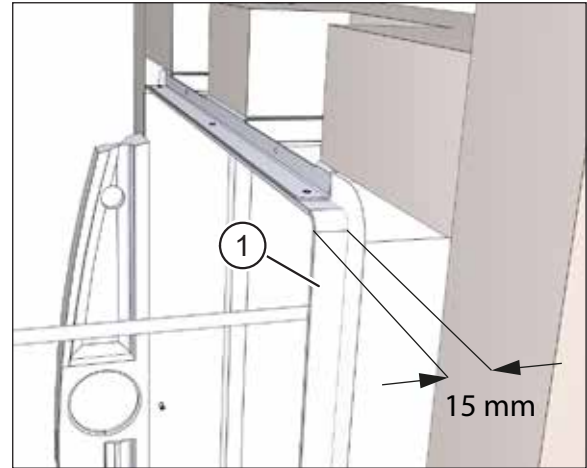
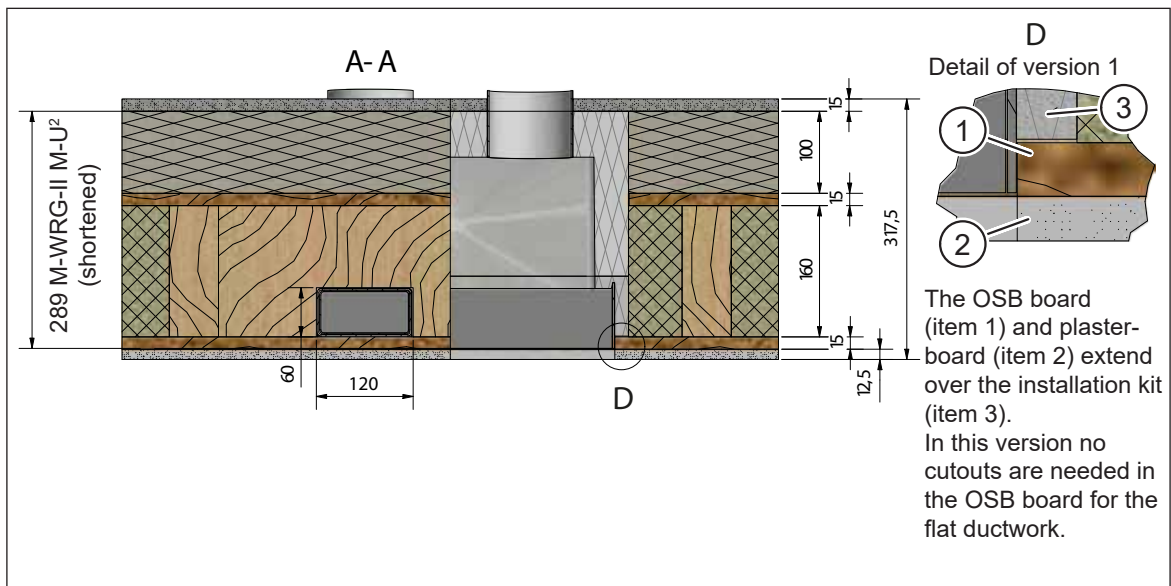
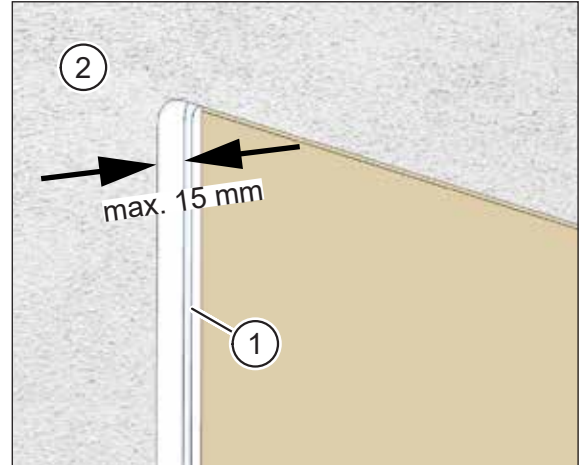

Fig. 51: Depth of plastering trim 15 mm
Fig. 52: Plastering trim and internal wall cladding ending flush
Fig. 62: The cladding must not protrude more than 15 mm
- ▶ Push the wall box between the two battens so that the plastering trim (item 1 in Fig. 51) will end flush with the eventual internal wall cladding (e.g. OSB board + plasterboard) or so that the internal wall cladding will protrude slightly above the plastering trim (see section A-A and detail D in Fig. 52 and Fig. 62 on page 51).
- The plastering trim is 15 mm deep (see Fig. 51).
- The plasterboard (item 2 in Fig. 62) must NOT protrude more than 15 mm above the plastering trim (item 1 in Fig. 62).